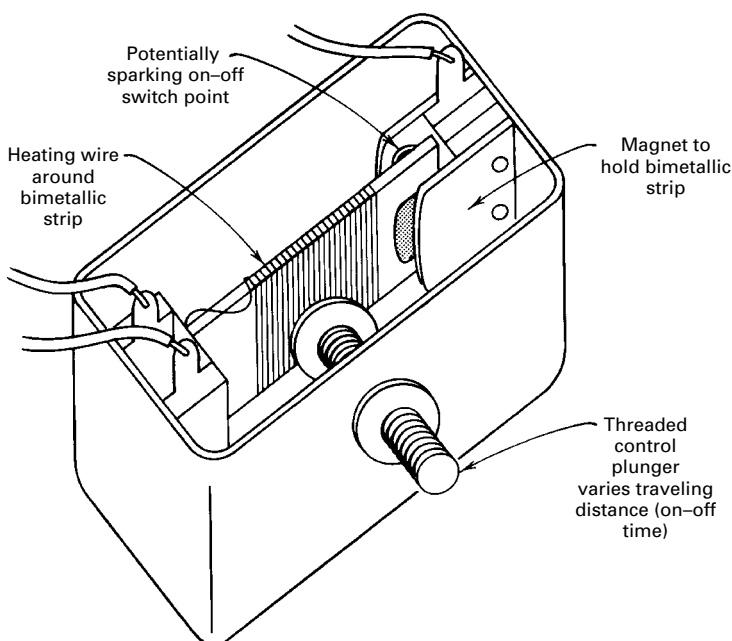

FIGURE 17.7 Inside a mechanical stepless heater.
2. **The mechanical stepless controller.** This appears to be *the* inexpensive replacement for the variable-voltage transformer. Inside one model, there's a small heating wire wound around a bimetal strip with a magnet at one end (Fig. 17.7). A plunger connected to the dial on the front panel changes the distance between the magnet and a metal plate. When you turn the device on with a heating mantle attached, current goes through the small heating wire and the mantle. The mantle is now on *full blast* (120 V out of 120 V from the electric wall socket)! As the small heating wire warms the bimetal strip, the strip expands, distorts, and finally pulls the magnet from its metal plate, opening the circuit. The mantle now cools rapidly (0 V out of 120 V from the wall socket), along with the bimetal strip.